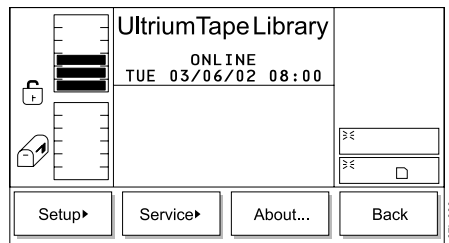

Figure 230. Main Menu (alternate screen)
1. From the Main Menu's initial screen, press the button below the **More** softkey. The Main Menu's alternate screen displays (see Figure 230).